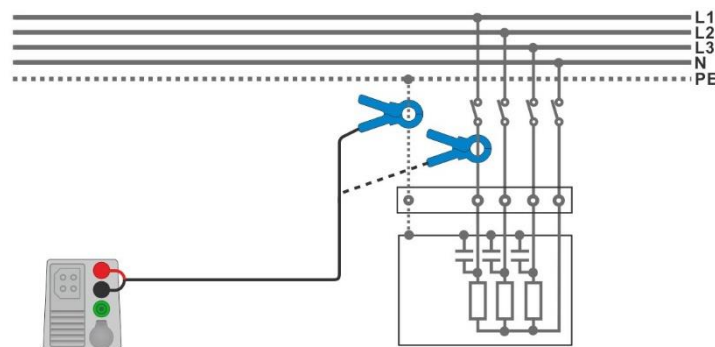

Figure 7.106: PE leakage and load current measurements
- ▶ Connect the clamp to the object under test, see *Figure 7.106*.